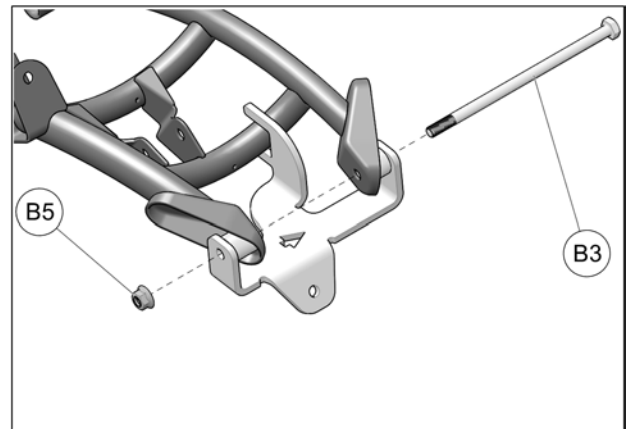

Fig. 7
7. Insert new M10x200mm bolt (B3) through anchor bracket, spacers, suspension arm and wheel hub. Use nut (B5) provided to tighten the assembly to 50 N•m [37 lb•ft] of torque. See Fig. 7